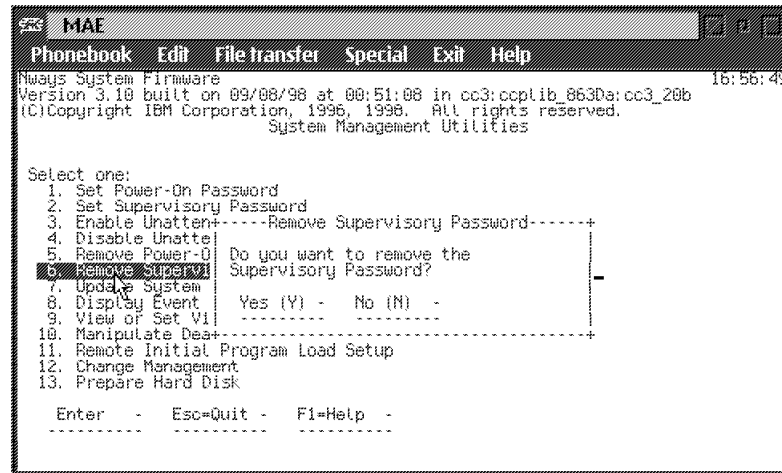

Figure 5-11. Remove Supervisory Password Panel
- 2 The Remove Supervisory Password panel is displayed (Figure 5-11).